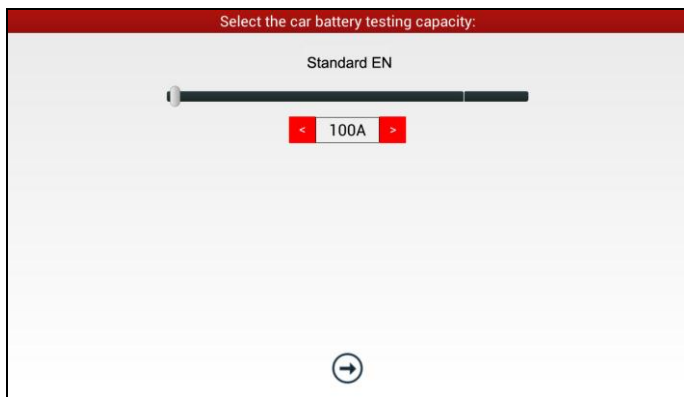

Fig. 11-6
- Select a testing standard except for JIS and tap , a screen similar to Fig. 11-6 will appear. Users can adjust capacity size by tapping on < or > or by dragging the slider on the bar.